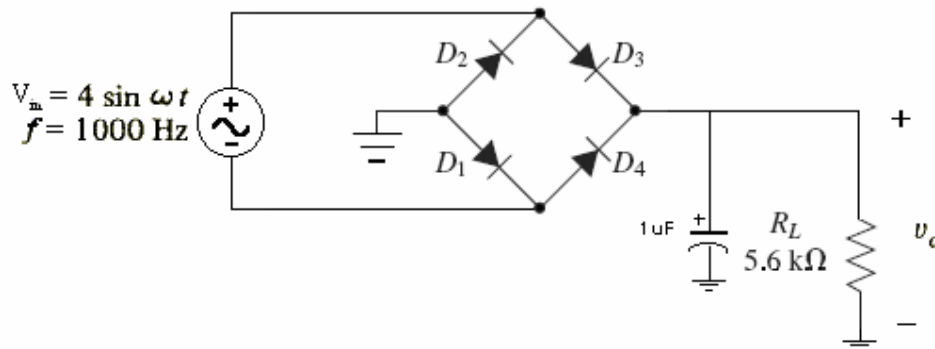

Fig.7: Filtered Bridge Rectifier
15. Add a $1\ \mu\text{F}$ capacitor in parallel with the bridge rectifier load as shown in Figure 7. Use the DMM to measure V_o , and record this value.